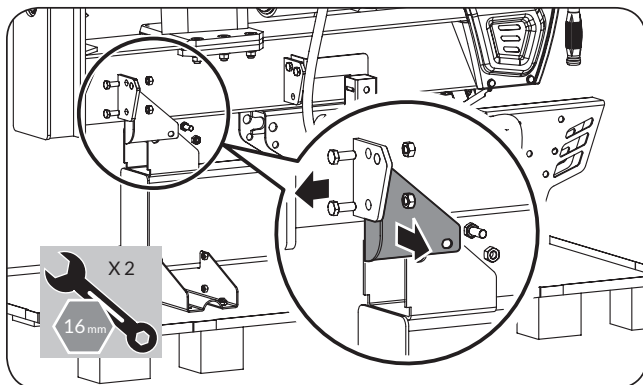

Figure 2a
1. Disassemble the triangle bracket from the left beam mount of unit. (Remove the bolts and nuts, See **Figure 2a.**)